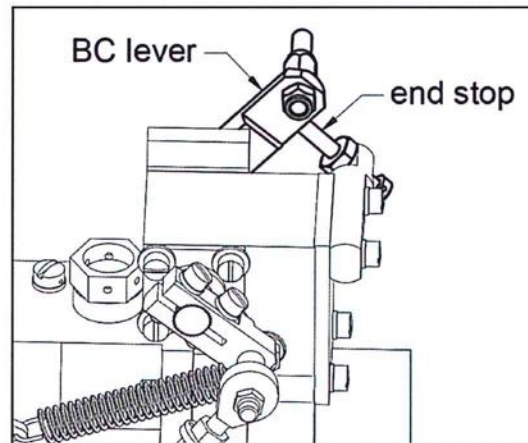

Fig. 6b – BC lever is touching end stop
- The propeller must be in feather position and BC lever is touching end stop, see *figure 6b*.
- a) The propeller must be in feather position and BC lever is touching end stop, see *figure 6b*.